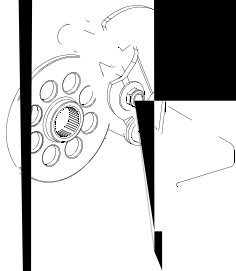

Figure 32
- From beneath the RH running board, remove the internal cotter pin to disengage the brake rod ferrule from the brake pedal. Push the brake rod to make certain there is clearance between the brake actuator arm. See Figure 32.